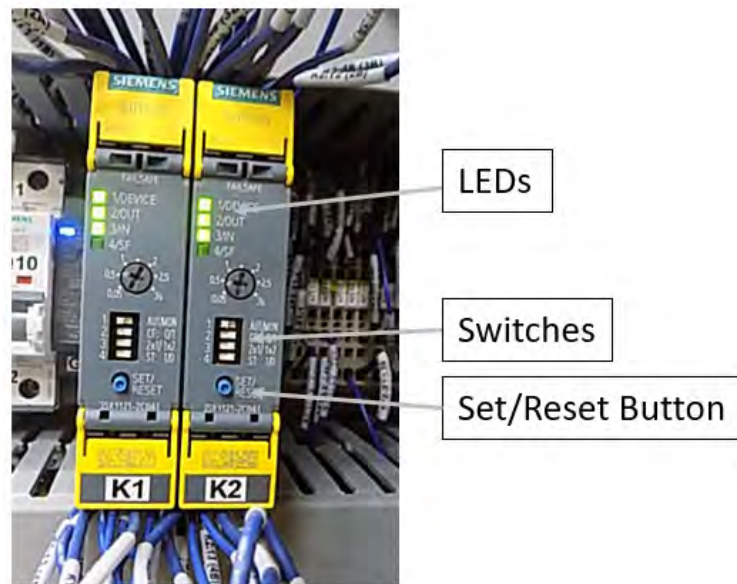
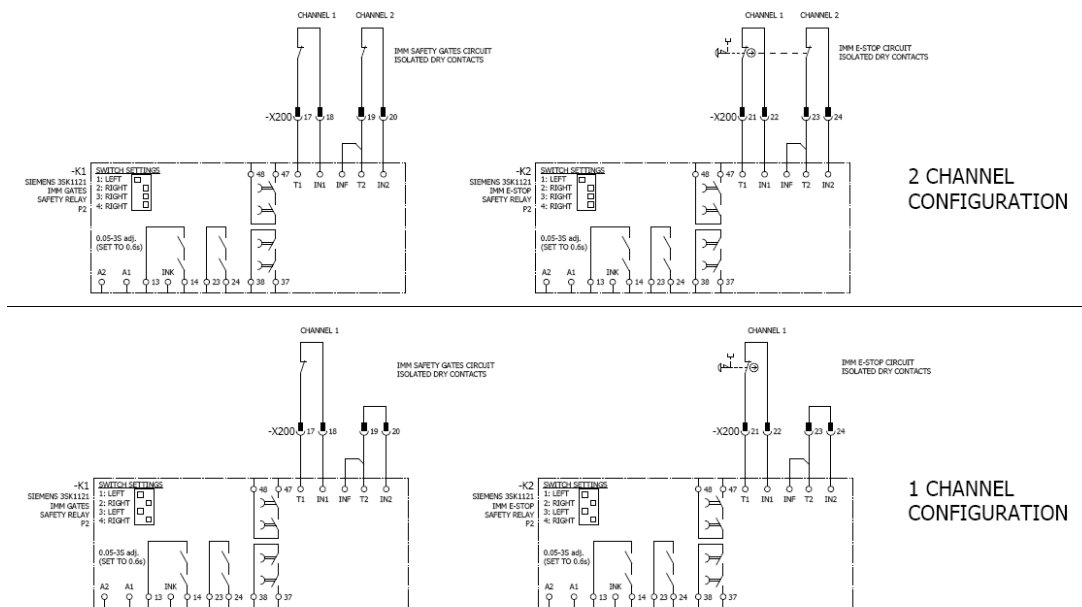

Figure 2-13 -K1 and -K2 Safety Relay LEDs, Switches, and Button (Two-Channel Configuration Shown)
Figure 2-14 Two-Channel and One-Channel Safety Circuit Configurations
If, after completing a safety risk analysis, the system integrator thinks that a one-channel signal configuration is sufficient for the system, the safety circuit can be changed. To change from a two-channel signal configuration to a one-channel signal configuration do the steps that follow (refer to Figure 2-13):
1. Move switch 3 on the safety relays -K1 and -K2 to the left position (refer to Figure 2-13 and Figure 2-14).
- Press and hold the Set/Reset button (3 to 4 seconds) on the front of the relays (refer to Figure 2-13) until the LEDs turn off and then release the button.
3. To acknowledge the changes, with the LEDs flashing Yellow (indicates the switch positions), press and hold the Set/Reset button (3 to 4 seconds) on the front of the relays (refer to Figure 2-13) until the LEDs stop flashing and then release the button. The top LED will now be Green. This indicates that the changes have been accepted. The 2nd and 3rd LEDs will be off (system in a safe state) or be Green (System in a non-safe state). This is now back to the normal operation for the relay.